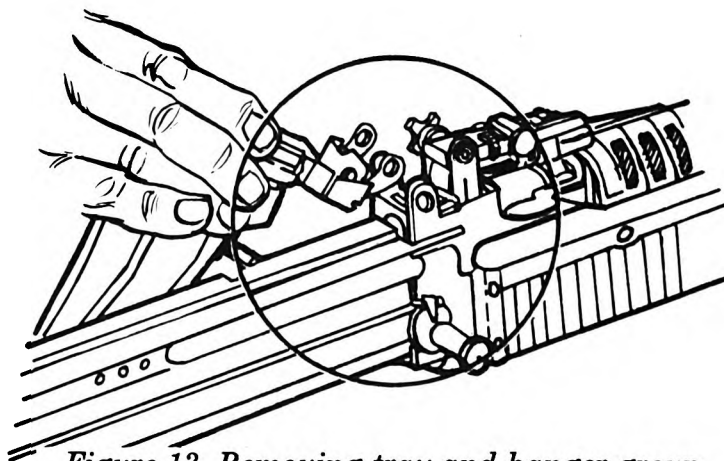

Figure 13. Removing tray and hanger group.
(4) Raise the tray and hanger group from the receiver group (figure 13).